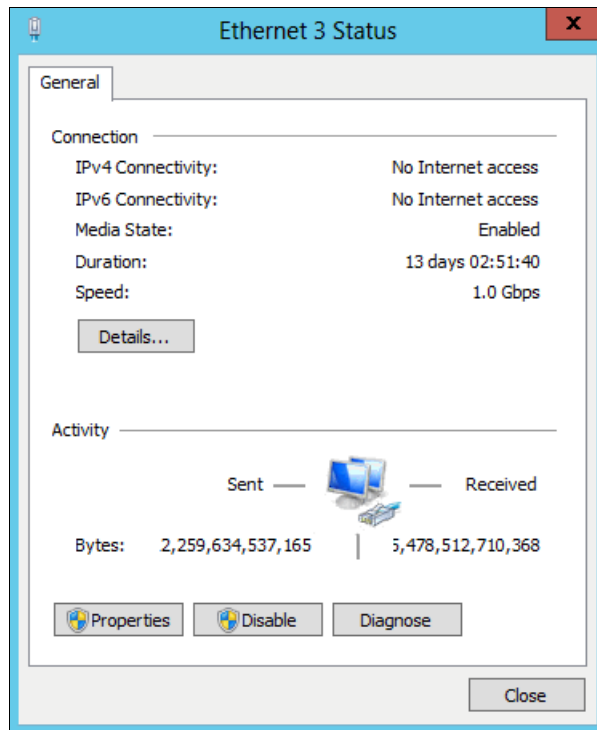

Figure 4-8 Ethernet Status
2. To configure an IP address, click one of the iSCSI Ethernet connections (in this case, Ethernet 3 or Ethernet 4). The window shown in Figure 4-8 should open.